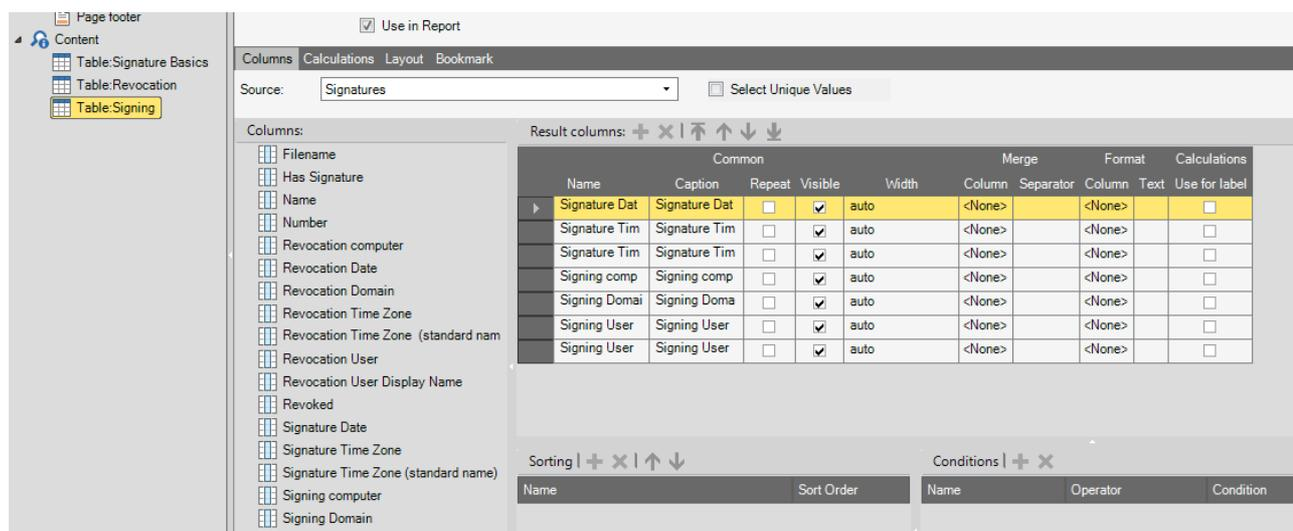

Figure 6-52. Signatures Table in the Report Editor
- As an alternative, the signature can also be placed in the Content area with Data Tables from the *Signatures* source, see Figure 6-52.
- Click **Execute Report** to show the current output. The Report shows the Signature columns as specified. Based on the example in Figure 6-52, the *Date* and *Time Zone* (UTC based and with standard name), the name of the *Signing computer* and *Domain*, and the login name and display name of the *Signing User* are shown.